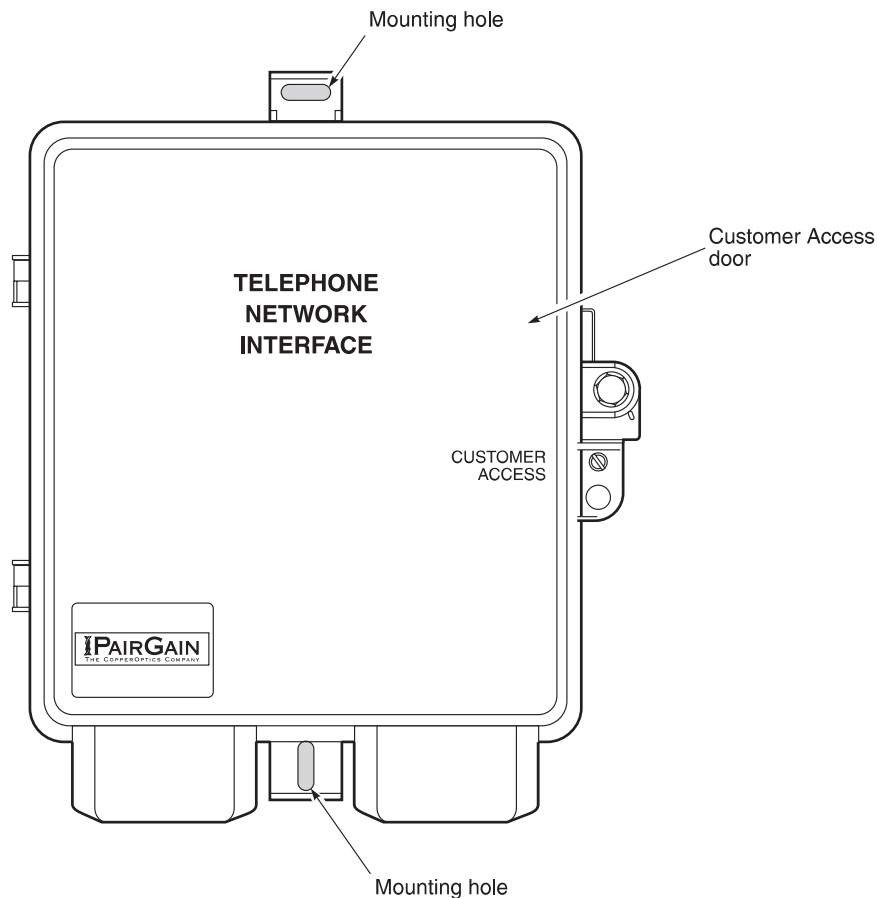

Figure 4. Installing the PRL-770 List 1A RT Enclosure
5.3 Install the PRL-770 RT Enclosure. Use the two #10 x 1.5" wood screws and flat washers provided in the PRL-770 Mounting Kit to attach the PRL-770 RT enclosure to the side of the customer residence (see Figure 4). For installation on stucco or other suitable surface, use the two PairGain provided #10 x 1" anchor nuts.
Install the PRL-770 RT enclosure only as shown in Figure 4, with all access openings facing down. Otherwise, possibly damaging materials (such as fluids) can enter the PRL-770 RT enclosure.